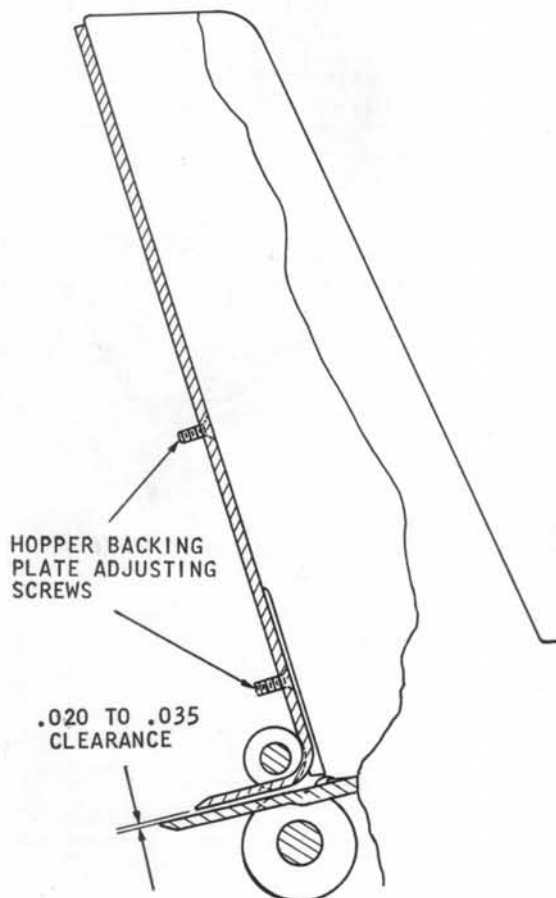

Figure 17. Hopper Backplate Clearance
4. Adjust the hopper back plate .020" to .025" clearance to the hopper bed plate (Figure 17).